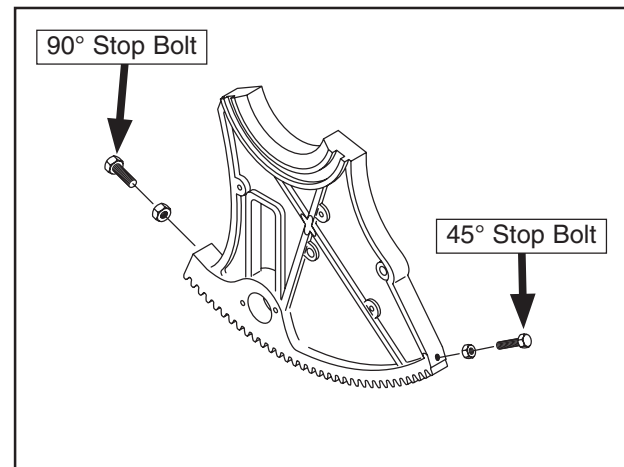

Figure 74. Geared trunnion.
4. Adjust the handwheel until the square is flush with the blade. Loosen the tilt indicator arrow, set to zero, and retighten. Loosen and adjust the stop bolt on the left side of the front trunnion to allow a 90° stop point. See **Figure 74** for details.